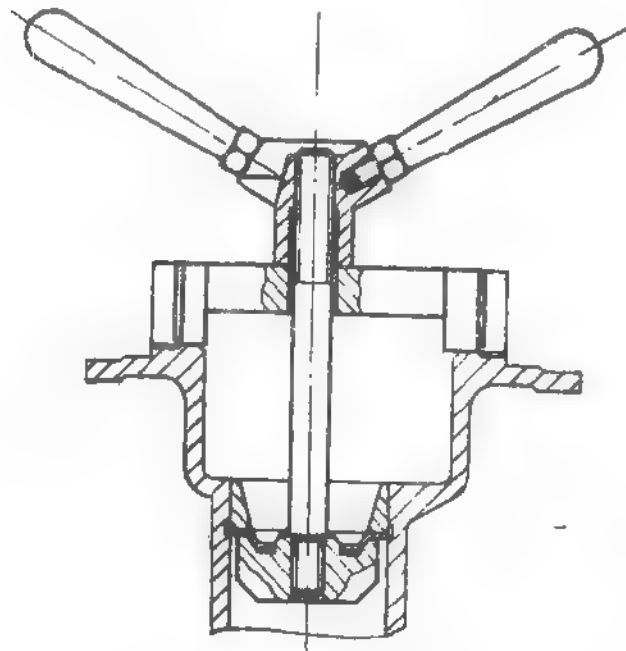

Fig. 4. 129. EXTRACTING REAR DIFFERENTIAL INNER BEARING OUTER RACE, USING D 143.
- Fit inner race of inner bearing on the driving pinion (see Fig. 4. 119), by means of S 139 bushing.
- Press outer race of outer bearing in the differential housing (see Fig. 4. 132). by means of S 140 hollow drift.